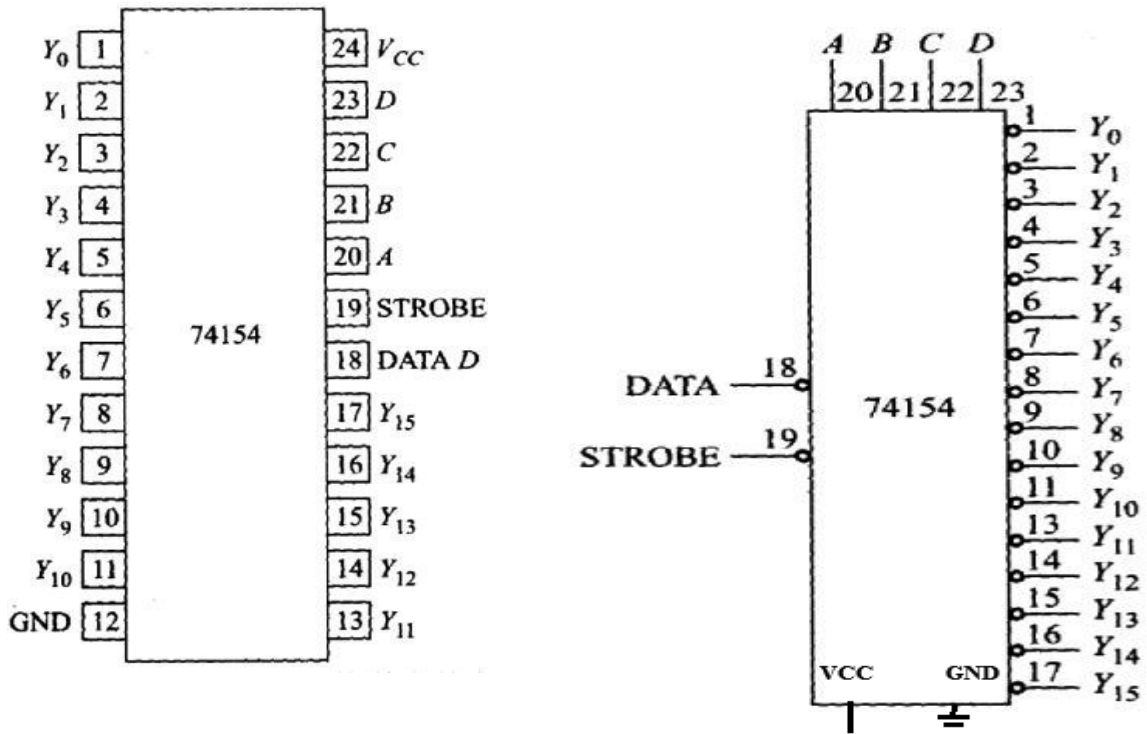

Figure 9.3 Sample circuit Diagram
3. Make the connections as shown in figure 9.3